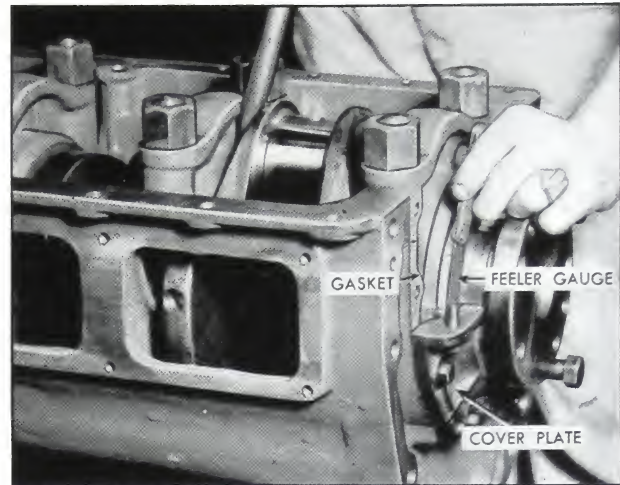
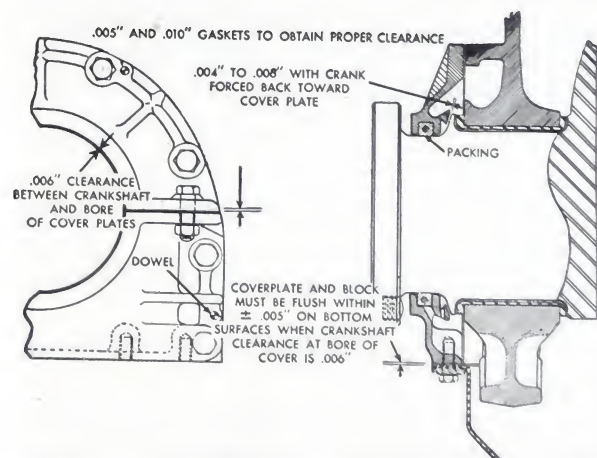

Fig. 2-54. Checking clearance on cover plate "1"
Fig. 2-55. Checking clearance on cover plate "2"
2. Shellac a new gasket over the dowel pins on the rear of the cylinder block. Assemble the upper cover plate over the dowel pins and tighten down the four cap screws and lock washers. With the crankshaft pried toward the cover plate, check the clearance between the crankshaft flange and the opposing face of the cover plate. Clearance should be .004 to .008. See Fig. 2-54.
.010 gaskets to move the cover plates to or from the cylinder block. See Fig. 2-54 and Fig. 2-55.